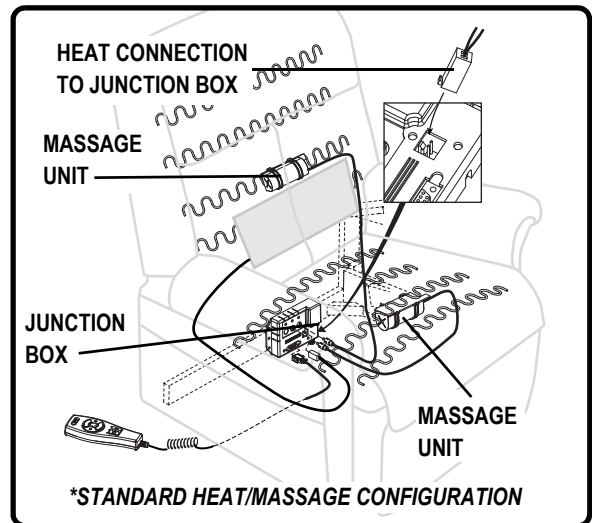

**Figure 4.2 NM101 and NM9001 Additional Assembly**
**NOTE:** See figure 4.2 for additional instructions regarding NM101 and NM9001 models.